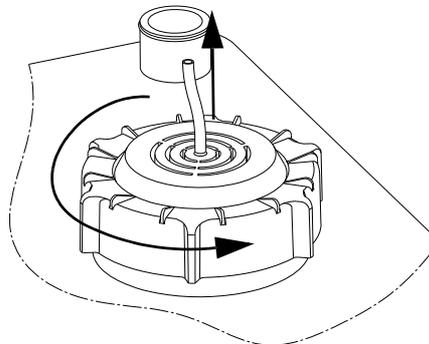

Fig. 11 Removing the level sensor
2. Loosen the screw cap by turning it counterclockwise. See fig. 11.